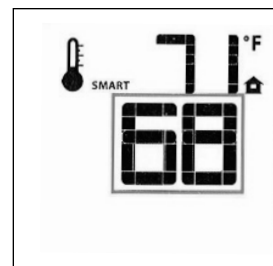

Figure 51. Smart Set Temp.
- To adjust the temperature, press the Up or Down Arrow Keys until the desired Set Temperature is displayed. Fig. 51.